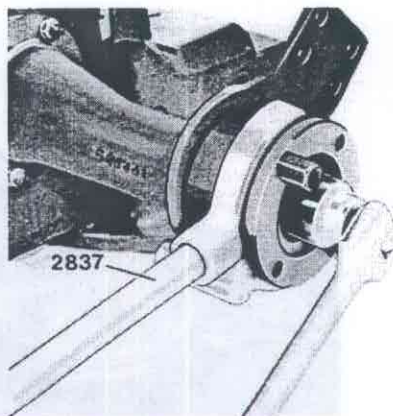

Fig. 46-135. Removing the nut
2. Fit it in a vice. Fit counterhold 2837 on the flange, see Fig. 46-135. Remove the flange nut.